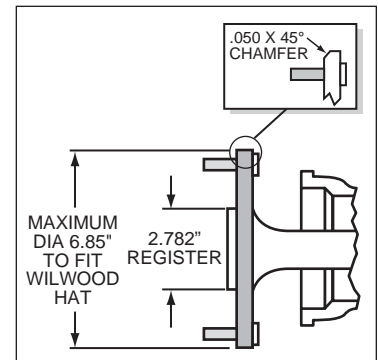

Figure 3. Axle Flange Maximum Dimension
- Maximum axle flange diameter must be no larger than 6.85" w/.050" x 45° chamfer (see Figure 3). Center register, or pilot of axle must be 2.78" or smaller.